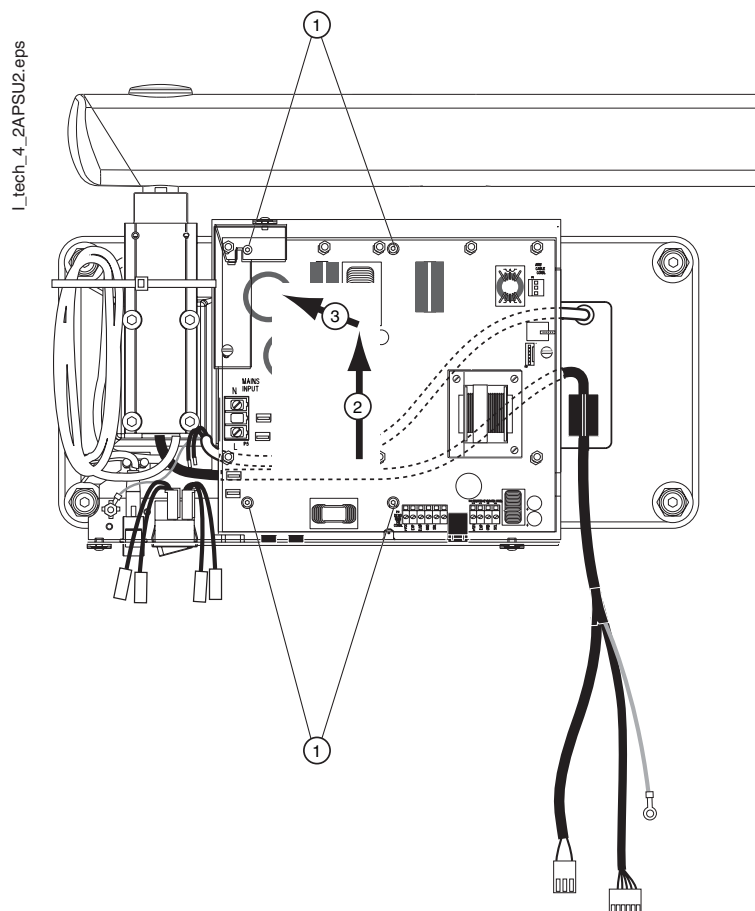

Figure 7
- d) Loosen the four M4x8 ISO 7380 screws of the generator assembly frame (Fig. 7, 1). Lift the generator assembly upwards (Fig. 7, 2). The generator assembly can now be lifted away from the wall adapter (Fig. 7, 3).